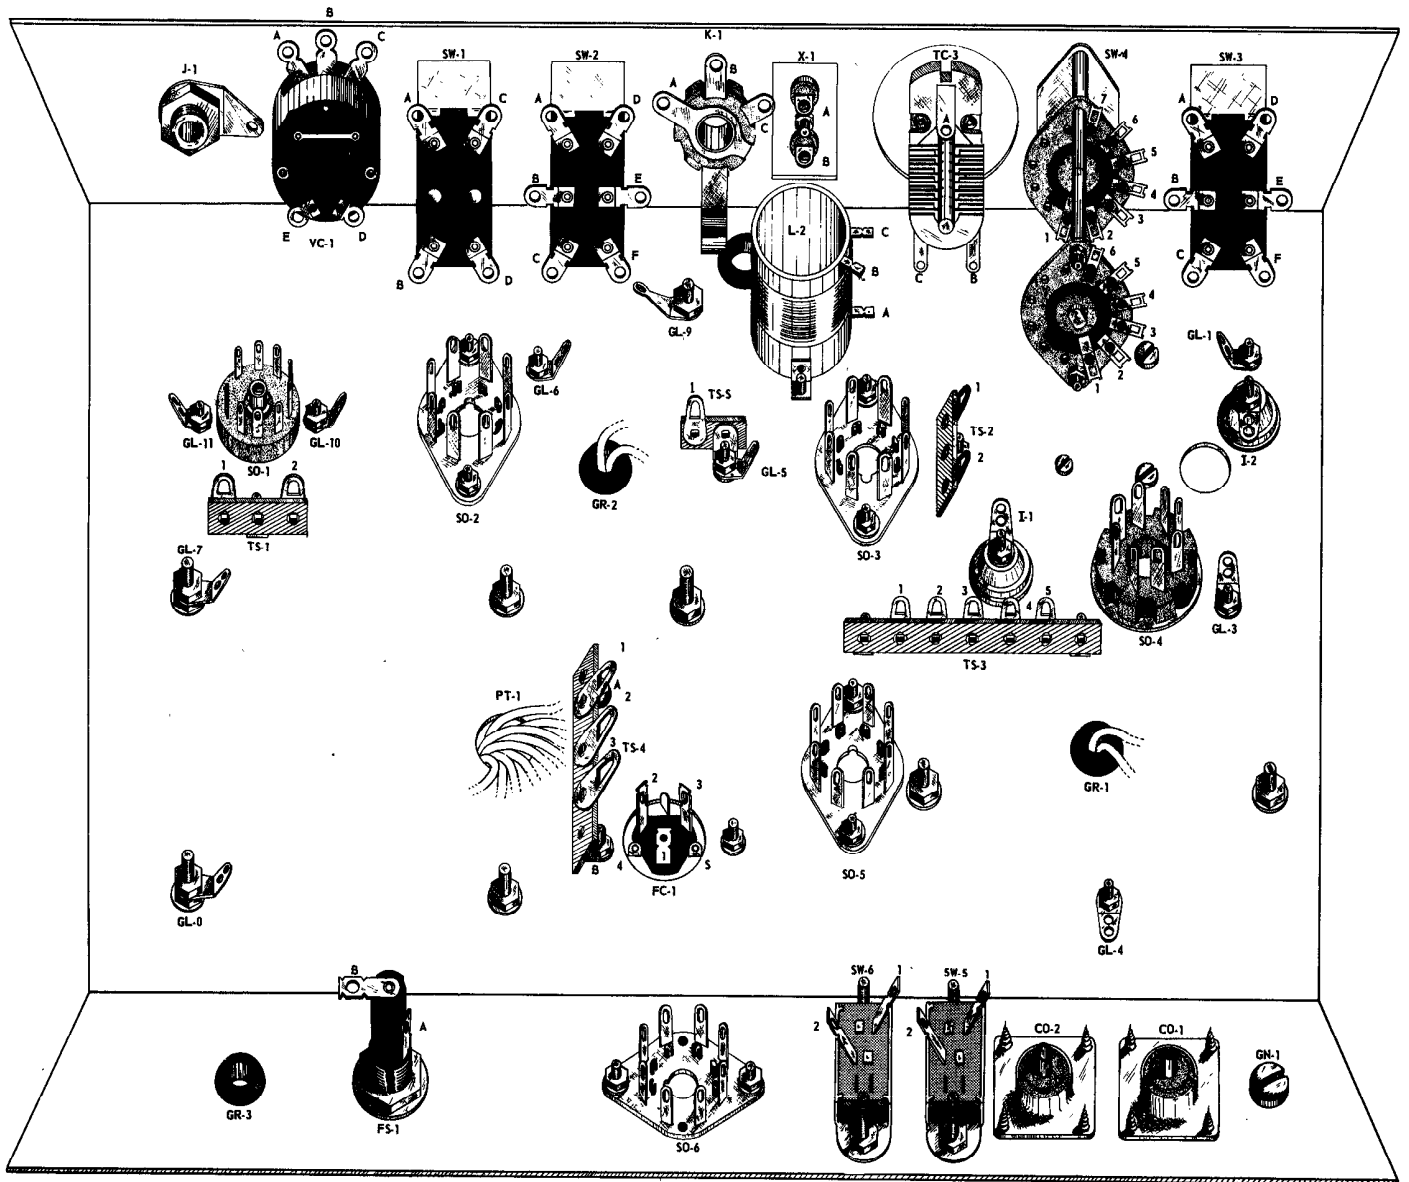
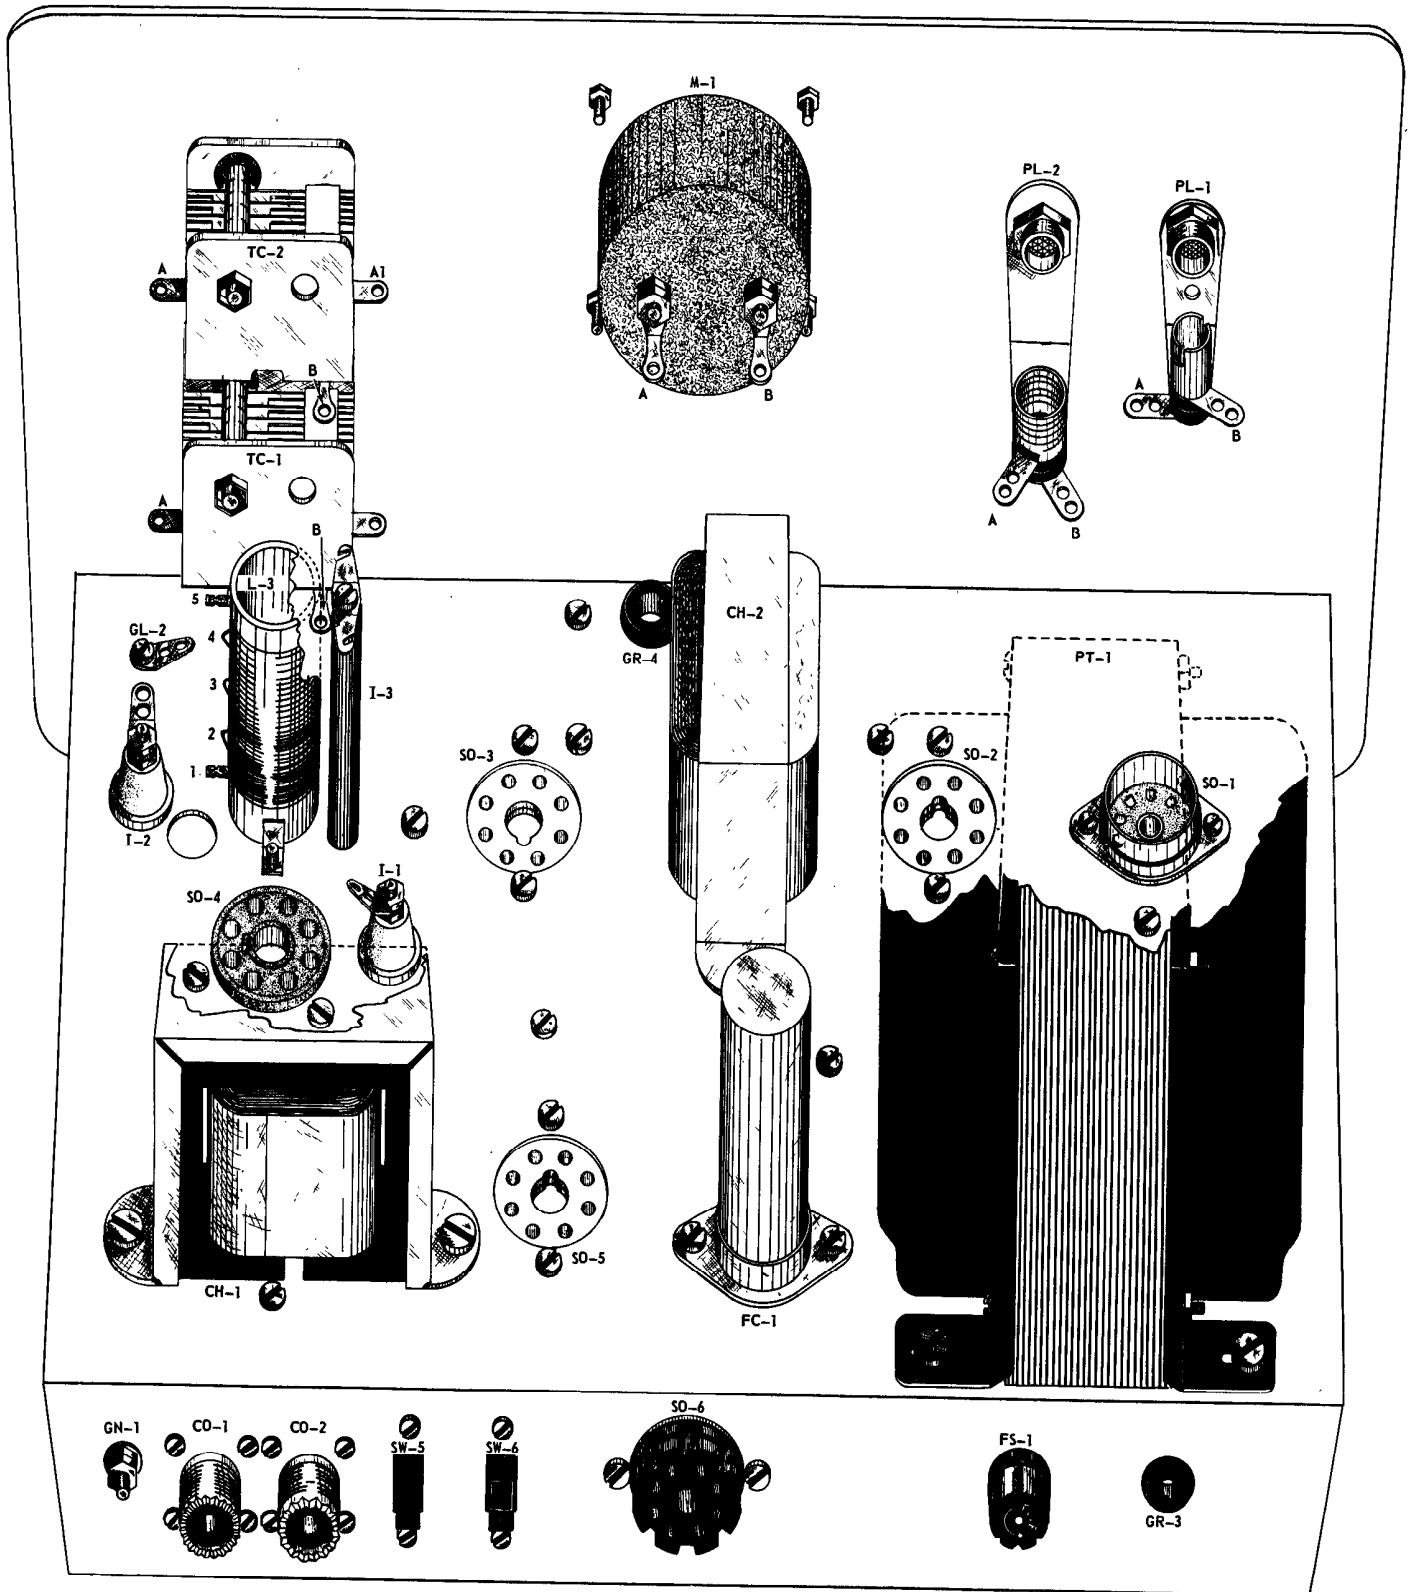

Figure 2. Bottom View, Parts Mounting.
Figure 3. Top View, Parts Mounting.
- 1. Unpack the punched chassis and lay it on a table, open side towards you. Position the chassis so that the holes may be identified as per Fig. 2.
- 4. Install these grommets in their respective holes as shown in Fig. 2.
- 5. The remaining rubber grommet (1/2") is GR-4. Install as per Fig. 3.
- 6. Install an octal wafer socket in the chassis hole marked SO-2. The socket should be mounted on the inside of the chassis. Position the socket key way as shown in Fig. 2. Use two each 6-32x5/16" screws, #6 lockwashers and 6-32x1/4" hex nuts. Tighten securely.
- 7. Install an octal wafer socket in the chassis hole SO-3. Refer to Fig. 2 for
- 8. Install an octal wafer socket in the chassis hole SO-5. Refer to Fig. 2 for correct key way positioning. Secure the socket using two each 6-32x5/16" screws, #6 lockwashers and 6-32x1/4" hex nuts. Tighten securely.
- 9. Install an octal wafer socket in the chassis hole SO-6. Refer to Fig. 2 for correct key way positioning. Secure the socket using two each 6-32x5/16" screws, #6 lockwashers and 6-32x1/4" hex nuts. Tighten securely.
- 10. Install the octal mica filled socket in the chassis hole SO-4. Place the socket into the hole from the top of the chassis. Position the key way as shown in Fig. 3. Install the socket retainer ring making certain it is firmly seated in the socket groove.
- 11. Install the 9-pin miniature socket in chassis hole SO-1. Position the socket lugs as per Fig. 2. Secure the socket with two each 2-56x3/8" screws, 2-56x3/16" hex nuts and #4 lockwashers. Tighten securely but be careful not to strip the screw threads or break the screws.
(b) Insert the fuse post into hole FS-1 from the outside of the chassis. Position the fuse post lugs as shown in Fig. 2.
13. Install slide switch SW-6 from the inside of the chassis. Only the black bakelite handle should protrude through the slot in the chassis. Position the two switch lugs as shown in Fig. 2. Secure the switch with two each 4-40x 3/8" screws, #4 lockwashers and 4-40x 3/16" hex nuts. Tighten securely.
18. Mount a 2-lug tie strip TS-1 on the hole near socket SO-1. Use a 6-32x 5/16" screw, a #6 lockwasher and a 6-32x1/4" hex nut. Position the tie strip as per Fig. 2 and tighten securely.
19. Mount a 2-lug tie strip TS-2 on the hole near SO-3. Use a 6-32x5/16" screw, a #6 lockwasher and a 6-32x1/4" hex nut. Position the tie strip as per Fig. 2 and tighten securely.
32x5/16" screws, #6 lockwashers and 6-32x1/4" hex nuts. Position the tie strip as per Fig. 2 and tighten the nuts securely.
21. Mount one end of the 3-lug tie strip TS-4 on the chassis in hole marked "A". Use a 6-32x5/16" screw, a #6 washer and a 6-32x1/4" hex nut. Position the tie strip as per Fig. 2, align the remaining mounting hole with chassis hole marked "B". Securely tighten nut on screw in hole "A".
22. Install the mounting plate for the filter capacitor FC-1 on the chassis hole FC-1. The plate should mount on the top side of the chassis. Position the slots of the plate as per Fig. 2. Use two each 6-32x5/16" screws, #6 lockwashers and 6-32x1/4" hex nuts. Center the mounting plate slots in the chassis hole, then secure the nuts. This action also completes the mounting of tie strip TS-4.
(c) Position the tie strip and lug per Fig. 2.
25. Mount the two #6 grounding lugs GL-1 and GL-2. GL-2 mounts on the top side of the chassis (position as per Fig. 3) and GL-1 mounts on the underside of the chassis (position as per Fig. 2). Use a 6-32x5/16" screw and a 6-32x1/4" hex nut to secure the lugs. Screw-head should be on top side of the chassis.
26. Mount a #6 grounding lug, GL-3, in the hole near socket SO-4. Use a 6-32x 5/16" screw and a 6-32x1/4" hex nut. Position the lug per Fig. 2 and tighten the nut securely.
1 and CO-2. Use a 6-32x5/16" screw and a 6-32x1/4" hex nut. Position the lug per Fig. 2 and tighten the nut securely.
28. Install a #6 grounding lug, GL-6, in the hole near socket SO-2. Use a 6-32x5/16" screw and a 6-32x1/4" hex nut. Position the lug per Fig. 2 and tighten the nut securely.
(f) Position the lug as per Fig. 3 and securely tighten the nut.
30. Remove one of the 6-32x1/4" hex nuts and the flat washer from the short end of insulator I-1 (underside of chassis). Place a #6 grounding lug on the screw. Add the flat washer and finally the 6-32x1/4" hex nut previously removed. Position the grounding lug per Fig. 2 and tighten the nut securely.
32. Mount the oscillator coil L-2 on the underside of the chassis near socket SO-3. Place the threaded mounting lugs over the mounting holes in the chassis. Make certain the coil tap lugs face as shown in Fig. 2. Use two 6-32x5/16" screws to secure the coil. Install the screws from the top side of the chassis. Tighten securely.
33. Mount the modulation choke CH-2 in position as per Fig. 3. Insert the two choke leads through grommet GR-2 then align the mounting holes. Use a 8-32x1/2" screw, a #8 lockwasher and an 8-32x5/16" nut for each mounting hole. A #8 grounding lug GR-9 should also be placed on the mounting screw nearest the front panel. Position the lug as per Fig. 2. Tighten both nuts securely.
34. Mount the filter choke CH-1 in position as per Fig. 3. Insert the choke leads through grommet GR-1 then align the mounting holes. Use two each 8-32x1/2" screws, #8 lockwashers and 8-32x5/16" hex nuts. Tighten securely.
36. Select the two #8 grounding lugs GL-7 and GL-8. Place one each over two of the transformer mounting screws as per Fig. 2. Secure each with an 8-32x5/16" hex nut.
capacitor mounts on the top side of the chassis. Insert the three condenser tabs into the three slots of the mounting plate as per Fig. 2. Press the condenser firmly against the plate then twist each tab one-eighth of a turn with a pair of pliers. This will secure the condenser to the mounting plate.
- 39. Mount the double-ended #6 solder lug on the top end of insulator I-3. Use a #6x $\frac{1}{4}$ " self-tapping screw. Position the lug as per Fig. 3 and tighten the screw.
- 40. Install the pi network coil L-3. Use the two remaining small holes near socket SO-4. Slip a #6 lockwasher over each of two 6-32x $\frac{5}{16}$ " screws and insert the screws from the underside of the chassis. Position the coil as per Fig. 3. The coil taps should face